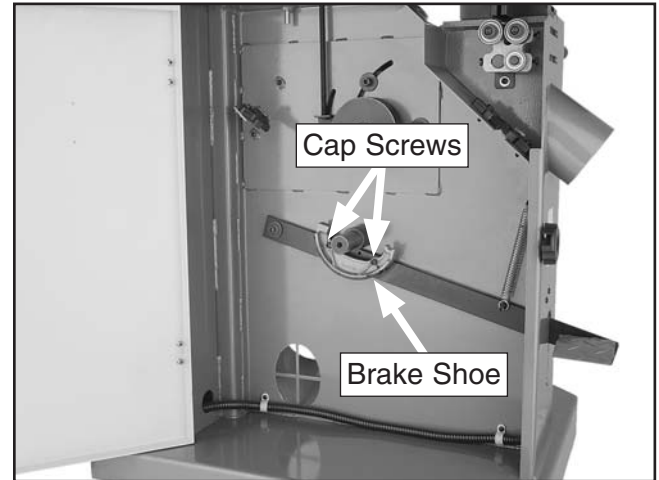

Figure 83. Brake shoe location.
3. Remove the cap screws, lock washers, and bushings that secure the brake shoe to the brake lever, then remove the brake shoe (see **Figure 83**).